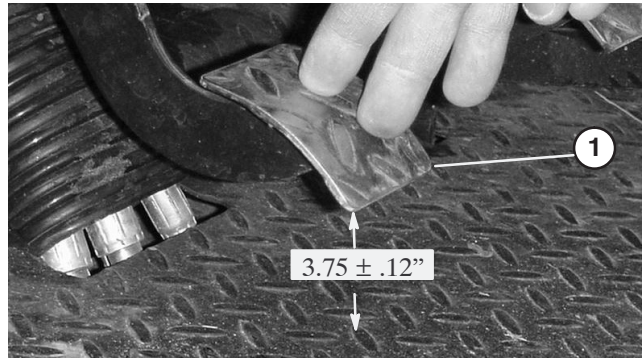

Figure 6
3. Adjust the jam nuts/or ball joint until the back rear edge of the clutch pedal is $3.75'' \pm .12''$ from the top of the floor plate diamond pattern, when a 4 lb. force is applied to the pedal (Fig. 6).